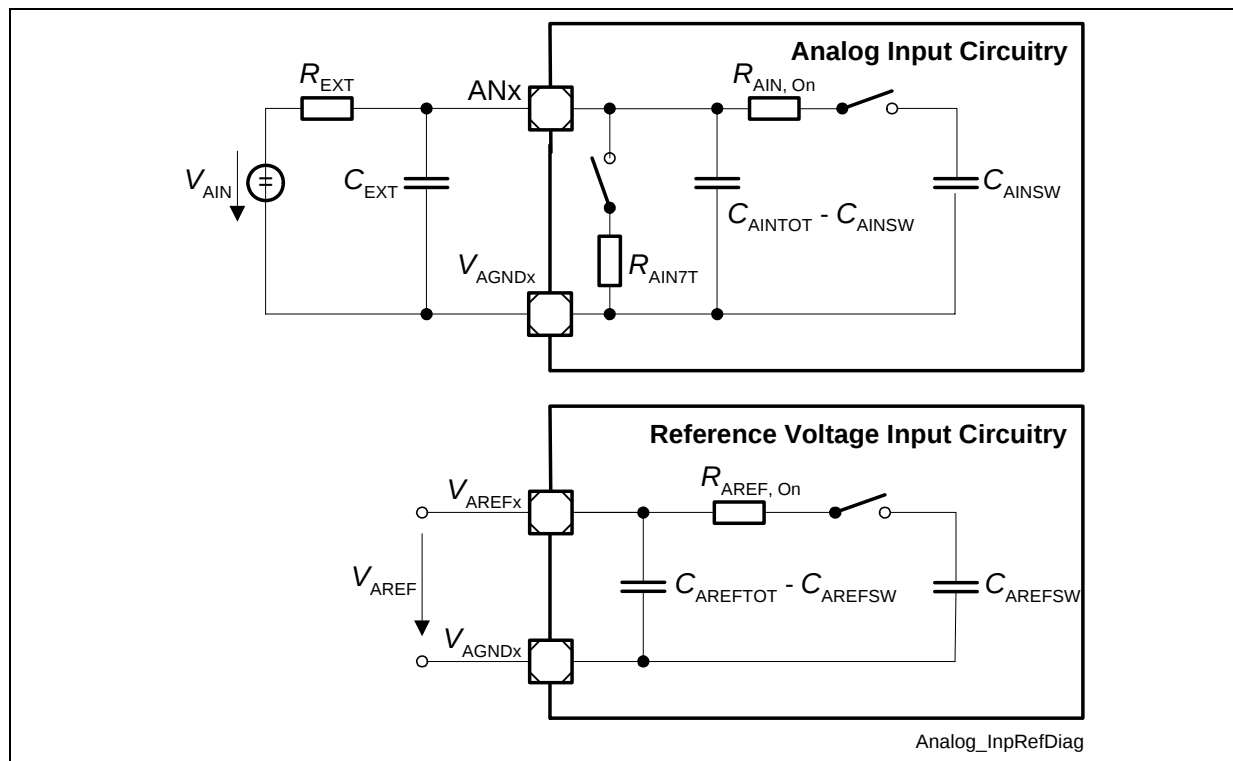

Figure 18 ADC0/ADC1 Input Circuits
- 15) For the definition of the parameters see also Figure 18.